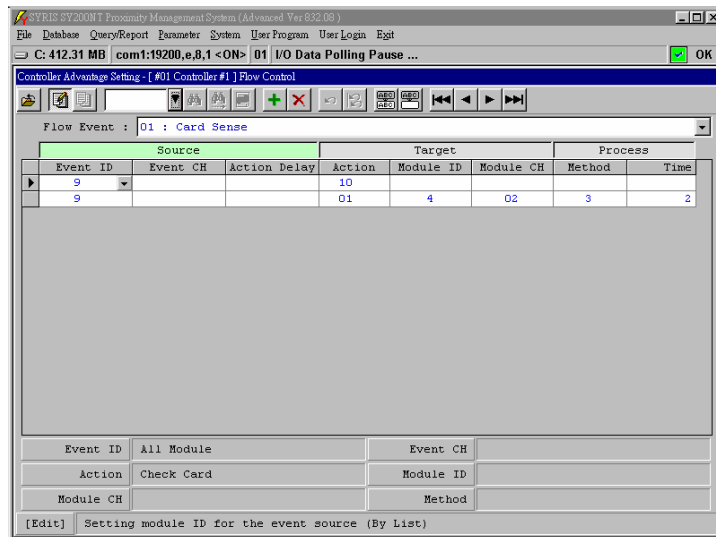

Fig.10-3 Flow Control Setting
4. Click "Flow Control" and wait screen display, as Fig.10-3.
Refer to Fig.10-3 for description: